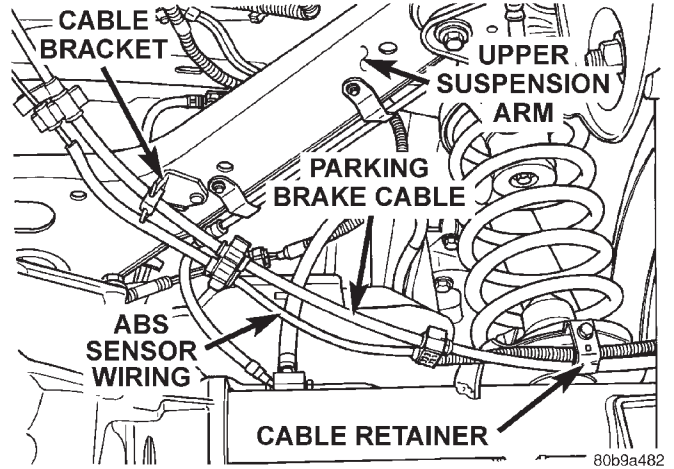
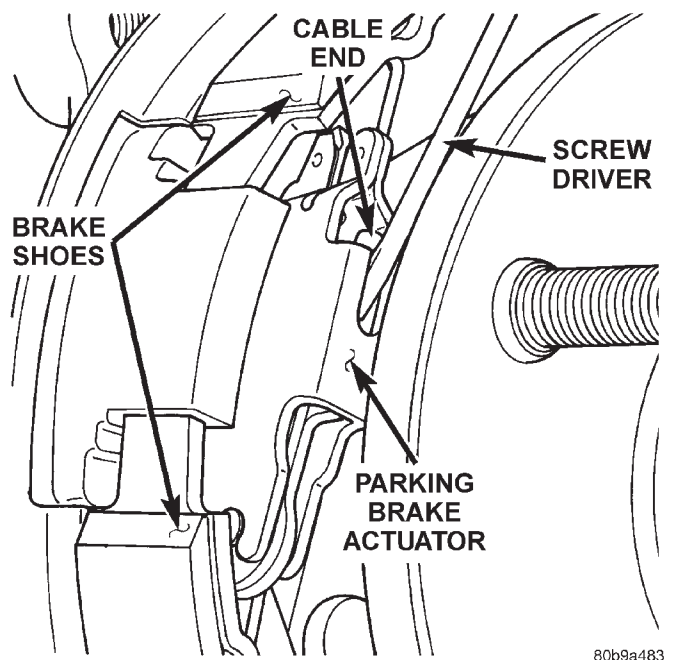

Fig. 55 Left Rear Parking Brake Cable
Fig. 56 Parking Brake Actuator
- (8) Remove the wheel and tire assemblies.
- (9) Remove the brake calipers, caliper anchors and rotors.
- (10) Remove the ABS sensor wiring harness (Fig. 55) from the rear brake cables.
- (11) Remove the cable retainer bolts (Fig. 55) from the rear spring pads.
- (12) Pull the cables out of the upper suspension arm brackets.
- (13) Push the cable in and lift up the end of cable with a small screw driver to disengage the cable from the parking brake actuator (Fig. 56).
- (14) Remove the cable from the vehicle.